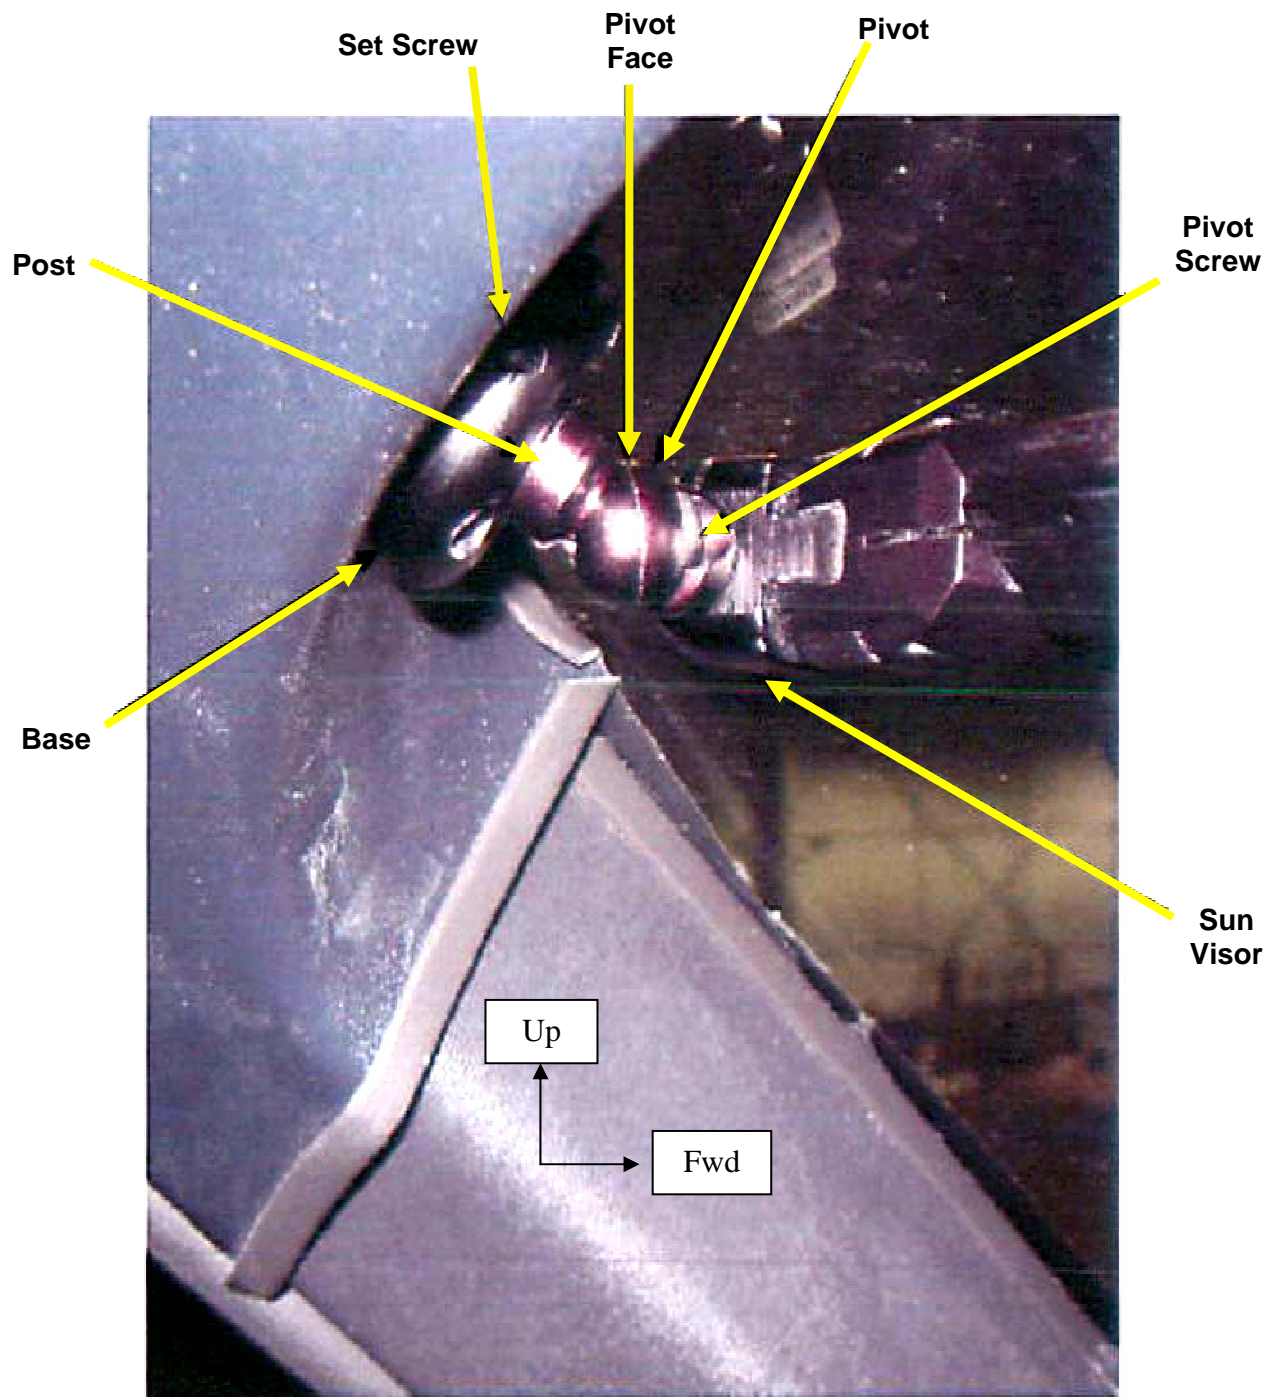

Figure 5-1: Visor Mounting Position (Pilot Side Shown)
1. Inspect the pivot face to ensure it is oriented nearly vertical; reference **Figure 5-1**.
2. Inspect the pivot to ensure it is oriented nearly horizontal, towards the windshield or outboard towards the interior; reference **Figure 5-1**.
1. Loosen pivot screw and set screw (**Ref. Figure 5-1**). If needed, remove assembly from the aircraft and apply local heat to assembly of approximately 250° C; disassemble while hot.
2. Install and position both visor assemblies in their new locations as described below. Refer to **Figure 5-1**.